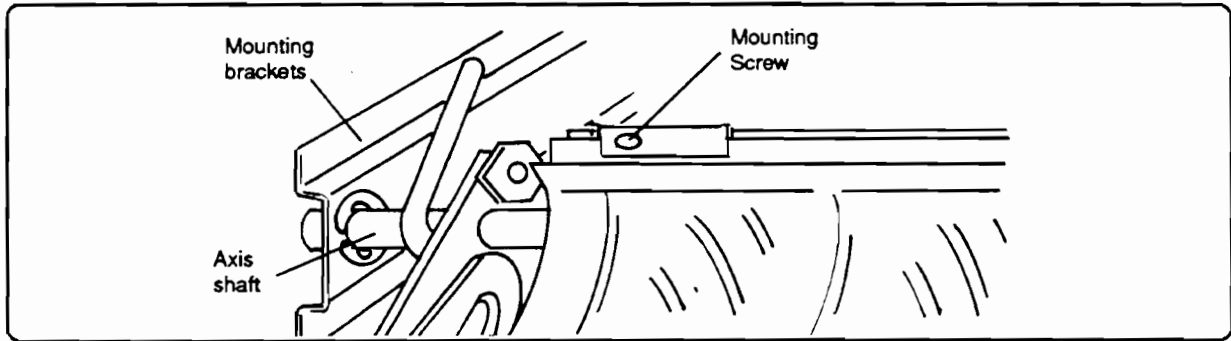

Figure 6-118. Securing the Axis Shaft
11. Remove the single screw that holds the axis shaft into the rear holding bracket (Figure 6-118).
4. Insert the screw that secures the left end of the axis shaft (Figure 6-118).